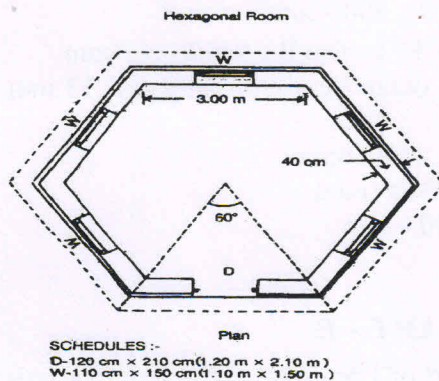

Fig.Q1
- 1** The plan and part cross-section of a hexagonal room are given in Fig. Q1. Estimate any eight of the following quantities and determine the cost.